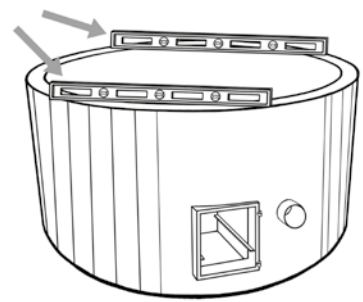

Fig. 5
- 13 Tighten the two retaining bolts underneath the 90 degree flue section and ensure it is in a vertical position (see Fig. 5)
- 14 Remove the protection film from the 1st section of flue and place onto the 90 degree flue section. Tip: The use of a hairdryer or placing the sections in an airing cupboard will warm up the protective film – making peeling easier! (See Fig. 5)
- 15 Remove protective film from the heat guard and carefully place over the previously attached 1st section of flue – removing this film is sometimes easier when warm. There are locating tabs around the top and the bottom of the heat guard that hold it in place on the flue. As above, heat makes the protective film easier to remove! (See Fig. 5)
- 16 Remove the protective film for the 2nd section of flue (the one with the rain guard attached) and place on top of the 1st section of flue (see Fig.5).
- 17 Place the grate & ash collecting tray in the boiler (see Fig. 5).